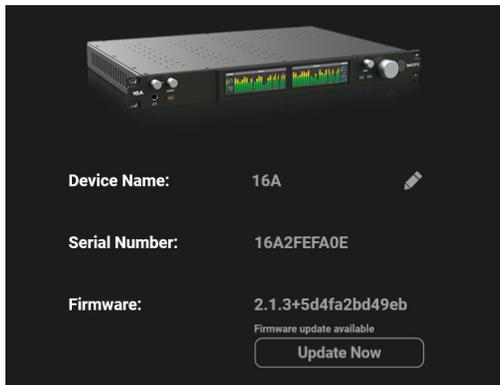

Figure 6-13: Go to the Device tab to see if there is a firmware update available.
- 2 Go to the Device tab and look at the *Firmware* setting (Figure 6-13).
- 3 If your computer has access to the internet, and there is a firmware update available, you'll see the *Update Now* button (Figure 6-13). Click it to update your firmware.